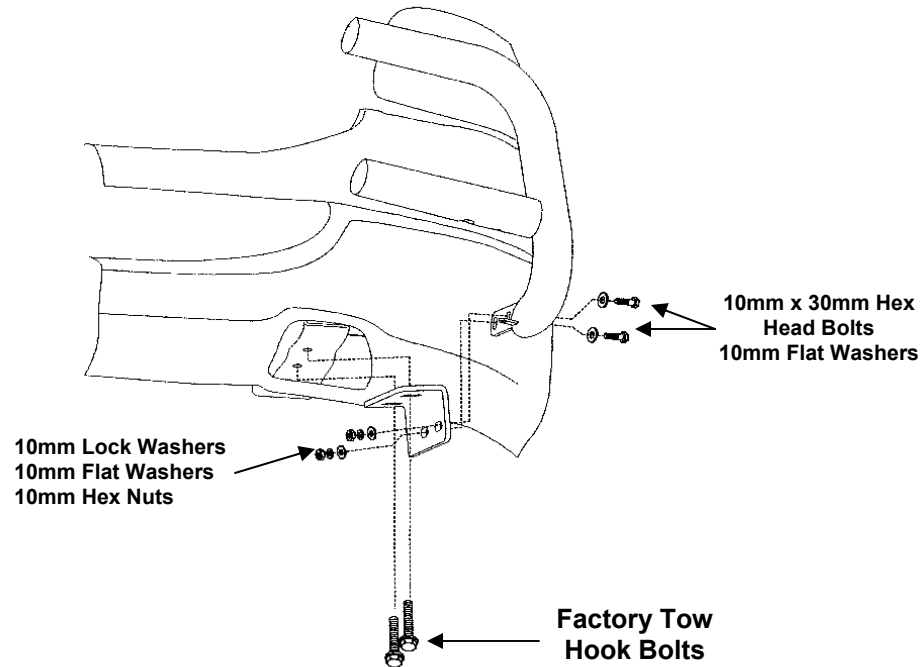

Figure 1
4. Position Bottom Brackets up to bottom frame and secure them with factory tow hook bolts **(Figure 1)**.